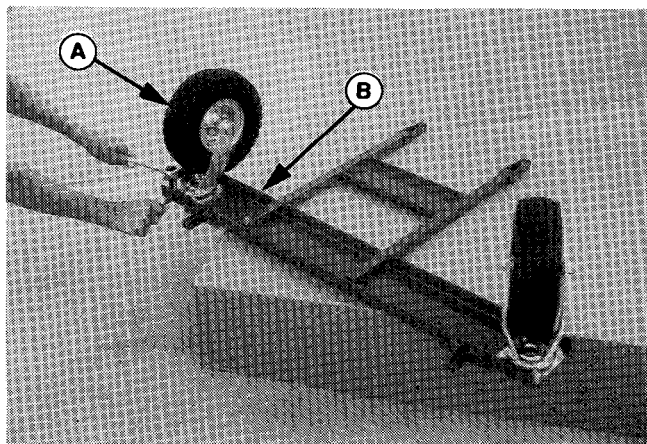

Figure 2.
1. INSTALL THE WHEEL ASSEMBLIES (A, figure 2) TO THE FRAME (B). Place the head of the swivel wheel on the end of the frame. Align the holes and place four $3/8 \times 1$ long hex bolts up through the frame and head of the swivel. Secure with four $3/8$ S.A.E. flatwashers and locknuts (2-way).